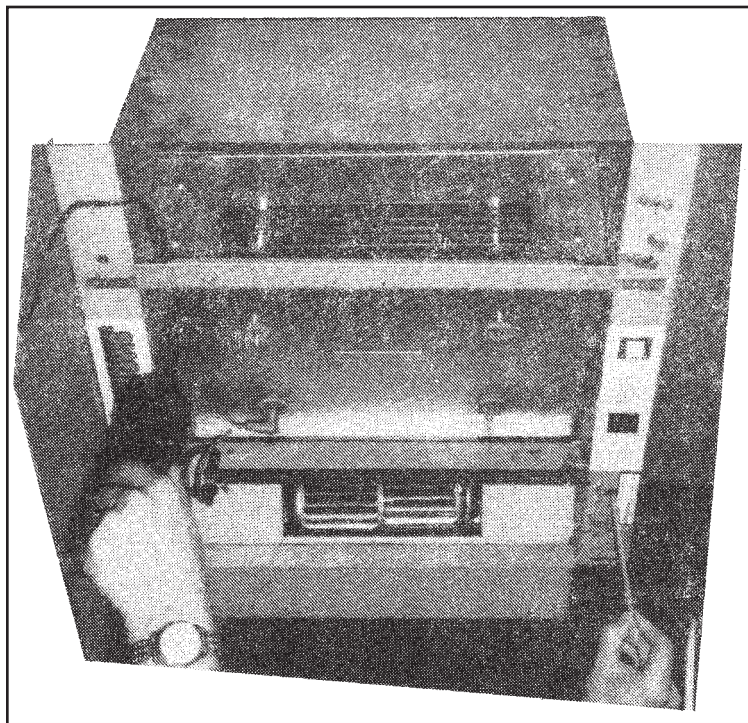

FIGURE 19
3. Turn unit control switch to the "on" position and cautiously engage the safety interlock switch. (Refer to Figure 19)